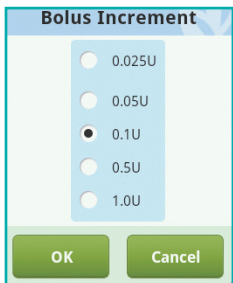

Figure 22
- a) The Bolus Increment setting (Figure 22) allows you to set the interval used when increasing or decreasing bolus amounts.